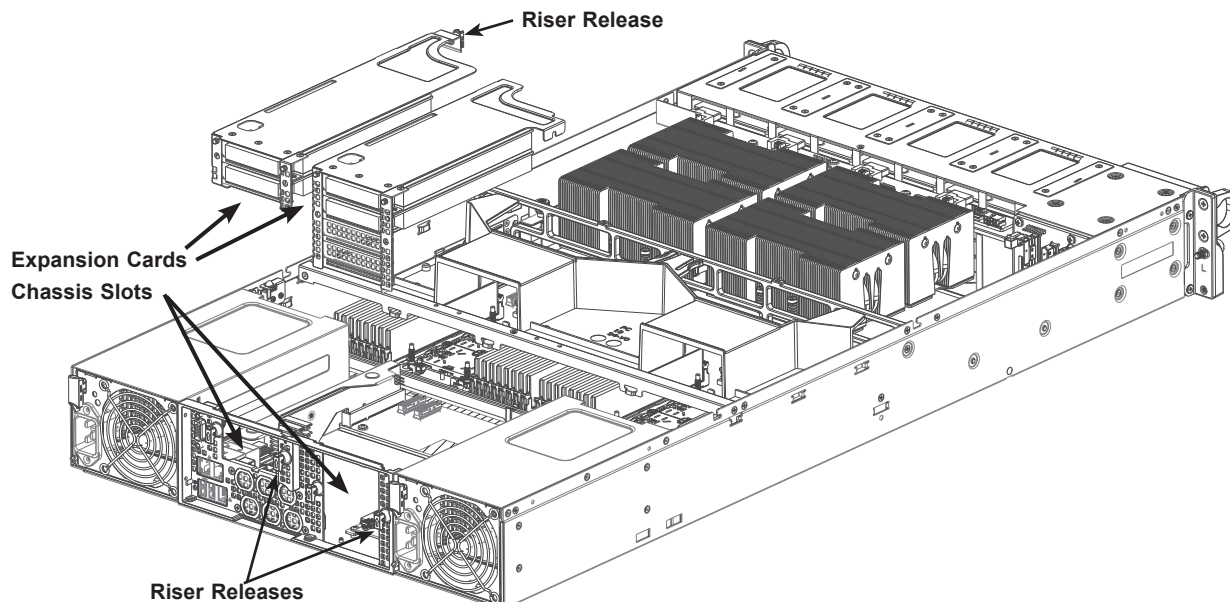

Figure 3-8. Installing Expansion Cards
3. At the rear of the chassis, remove the PCI riser by unlatching the riser release (see Figure 3-8 for locations). There are two releases at the rear and one at the crossbar.